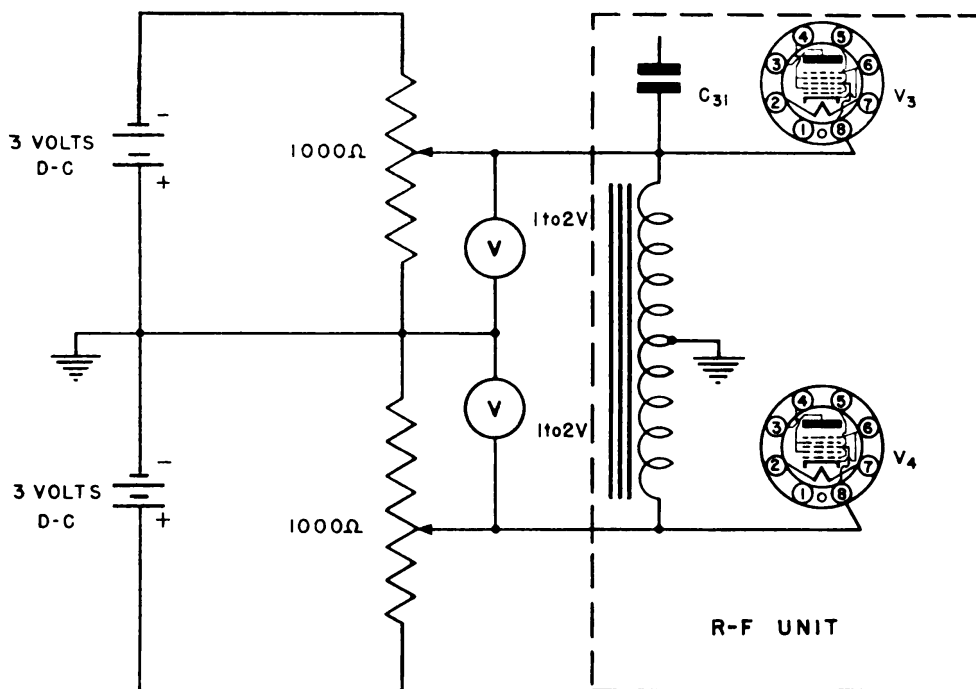

Figure 15—Connection diagram for determination of modulation voltage (d-c method)
(1) Follow procedure outlined in sub-paragraphs 15c(1) through (8).
(2) Connect batteries, potentiometers, and voltmeters to audio input grids of tubes V_3 and V_4 as shown in figure 15.
(3) Set potentiometers so the voltmeters read zero.
(4) Connect the output terminals of the signal generator to Frequency Meter BC-221-(*).
(5) Tune the frequency meter to 1900 kilocycles.
(6) Turn the band switch to I.F. 1.9-4.5 MC.
(7) Tune the signal generator to 19.
(8) Adjust the OSC. FREQ. CORRECTOR control until zero beat is obtained as heard in the headsets of the frequency meter.
(9) Tune the frequency meter to 1905 kilocycles.
(10) Increase the voltages on the grids of tubes V_3 and V_4 by adjusting the potentiometers, keeping the voltages equal, until zero beat is obtained.
(11) Record the voltage indicated on the voltmeters.
(12) Disconnect the batteries, potentiometers, and voltmeters.